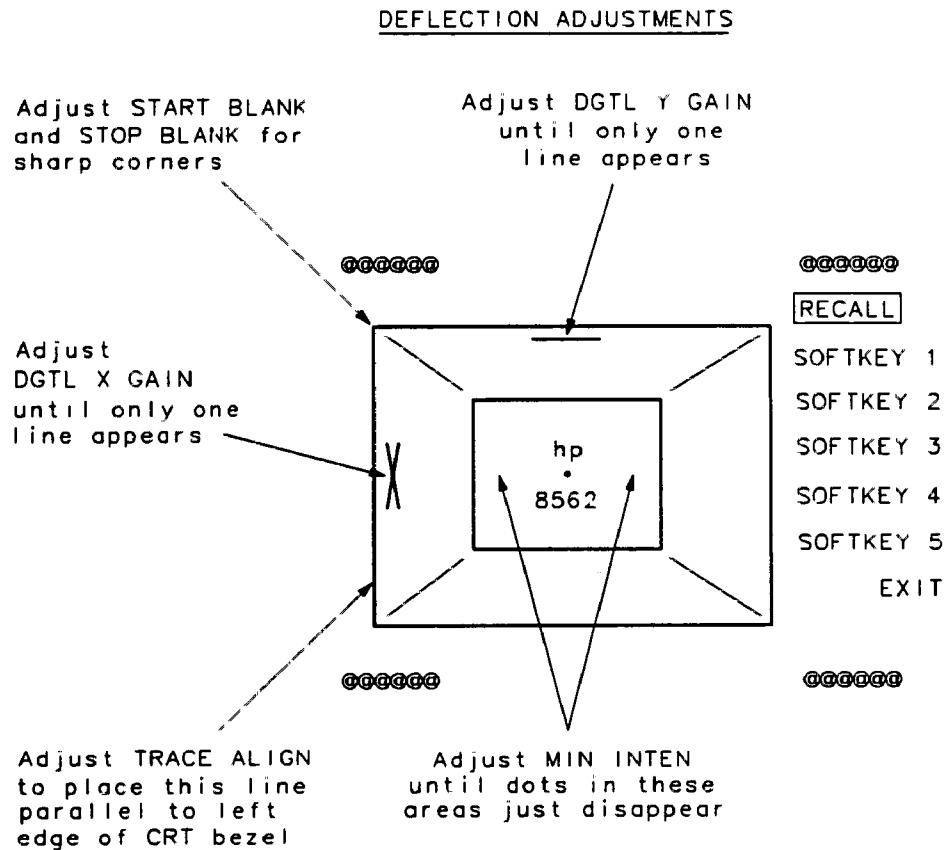

Figure 2-3. CRT Adjust Pattern
5. Adjust the rear-panel TRACE ALIGN until the leftmost line of the test pattern is parallel with the CRT bezel. See Figure 2-3.
8. Locate the dot just below the HP logo. See Figure 2-3. Adjust A17R63 ASTIG for the smallest round dot possible.
19. Refer to Figure 2-3 for locating the lines used for adjusting DGTL X GAIN and DGTL Y GAIN. Each of these lines is actually two lines adjusted for coincidence. The two lines will form an "X" if they are not adjusted properly.